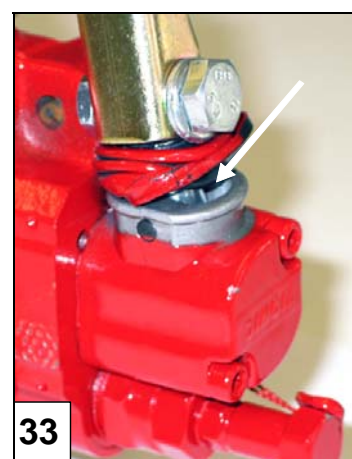

Fig. 33. Spool shifter
7.11 Lubricating the spool shifter, Fig. 33